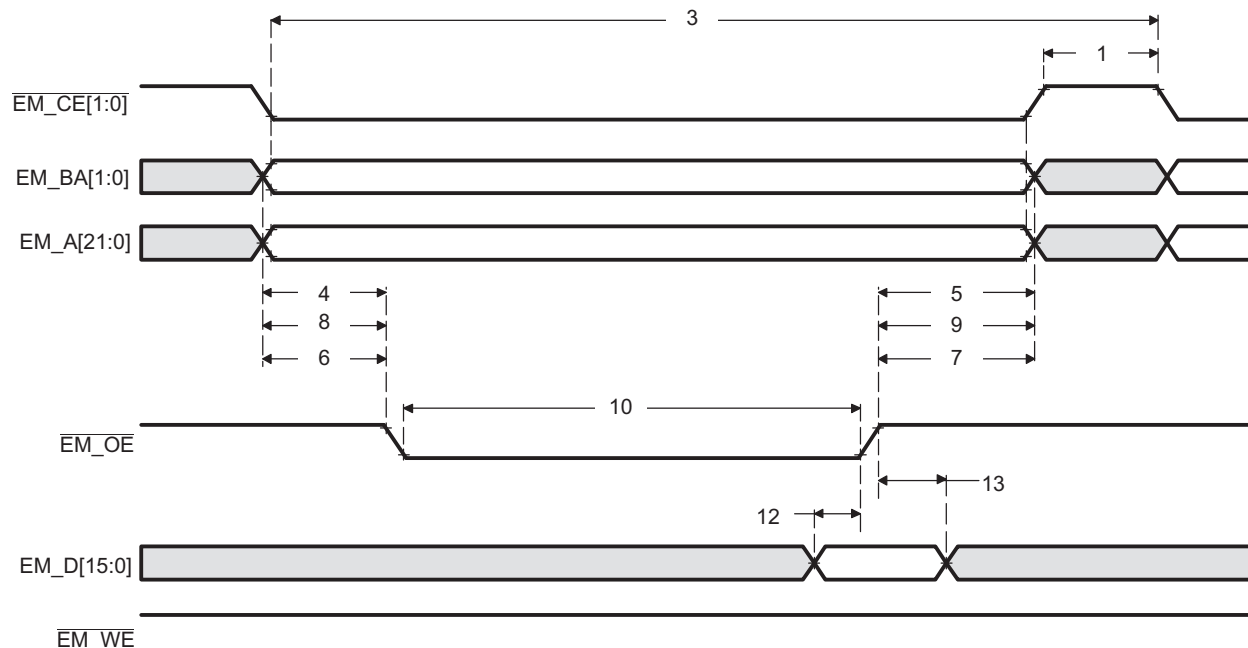
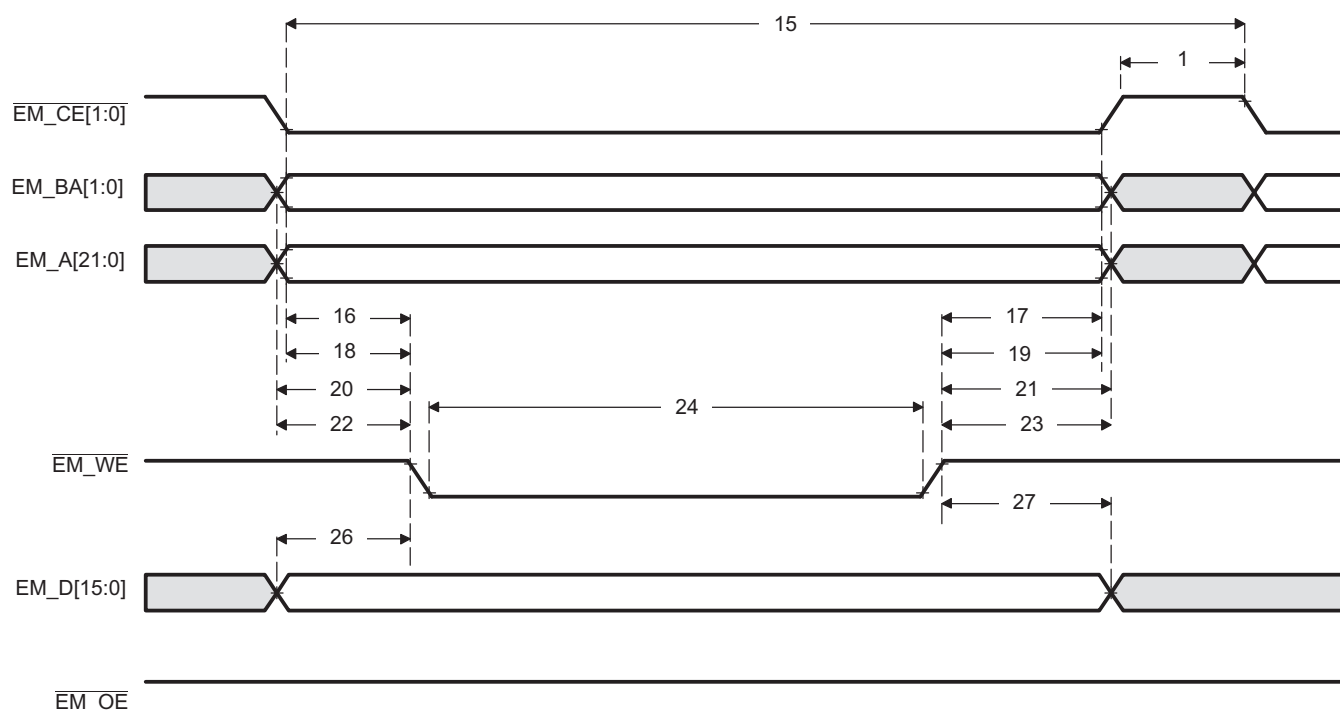

Figure 6-13. Asynchronous Memory Read Timing for EMIF
Figure 6-14. Asynchronous Memory Write Timing for EMIF
Table 6-21. Timing Requirements for Asynchronous Memory Cycles for AEMIF Module⁽¹⁾ (see Figure 6-13 and Figure 6-14)
Table 6-22. Switching Characteristics Over Recommended Operating Conditions for Asynchronous Memory Cycles for AEMIF Module^{(1) (2) (3)} (see Figure 6-13 and Figure 6-14)
(1) TA = Turn around, RS = Read setup, RST = Read strobe, RH = Read hold, WS = Write setup, WST = Write strobe, WH = Write hold, MEWC = Maximum external wait cycles. These parameters are programmed via the Asynchronous Bank and Asynchronous Wait Cycle Configuration Registers. These support the following range of values: TA[4-1], RS[16-1], RST[64-1], RH[8-1], WS[16-1], WST[64-1], WH[8-1], and MEW[1-256]. See the TMS320DM36x DMSoc Asynchronous External Memory Interface User's Guide (SPRUFI1) for more information.
(2) E=2*PLL1C SYSCLK4 period in ns. See Section 3.3 for more information.
(3) EWC = external wait cycles determined by EM_WAIT input signal. EWC supports the following range of values EWC[256-1]. Note that the maximum wait time before timeout is specified by bit field MEWC in the Asynchronous Wait Cycle Configuration Register. See the TMS320DM36x DMSoc Asynchronous External Memory Interface User's Guide (SPRUFI1) for more information.
Table 6-22. Switching Characteristics Over Recommended Operating Conditions for Asynchronous Memory Cycles for AEMIF Module^{(1) (2) (3)} (see Figure 6-13 and Figure 6-14) (continued)